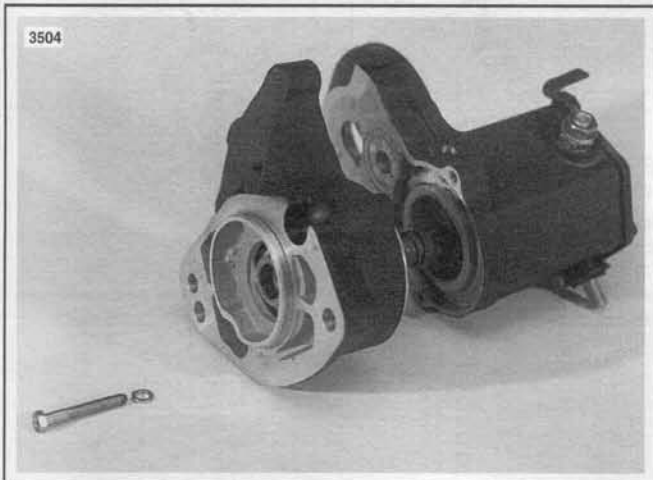

Figure 5-23. Remove Drive Housing
- See Figures 5-23 and 5-24. Remove the two drive housing mounting screws (11) and washers (12). Remove drive housing (13) from solenoid housing (14).